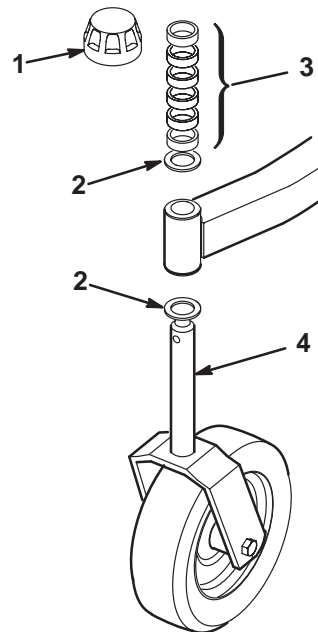

Figure 1
1. Remove the tensioning caps from the spindle shafts and slide the spacers and thrust washers off (Fig. 1 and 2).
2. Slide the spacers onto the castor spindle to get the desired height-of-cut; refer to the Height-of-Cut Chart, Page 12. Slide a thrust washer onto the spindle. Push the large castor spindle through the front castor arm and the small castor spindle through the rear castor arm. Install another thrust washer and the remaining spacers onto the spindle and install the tensioning cap to secure the assembly (Fig. 1 and 2).